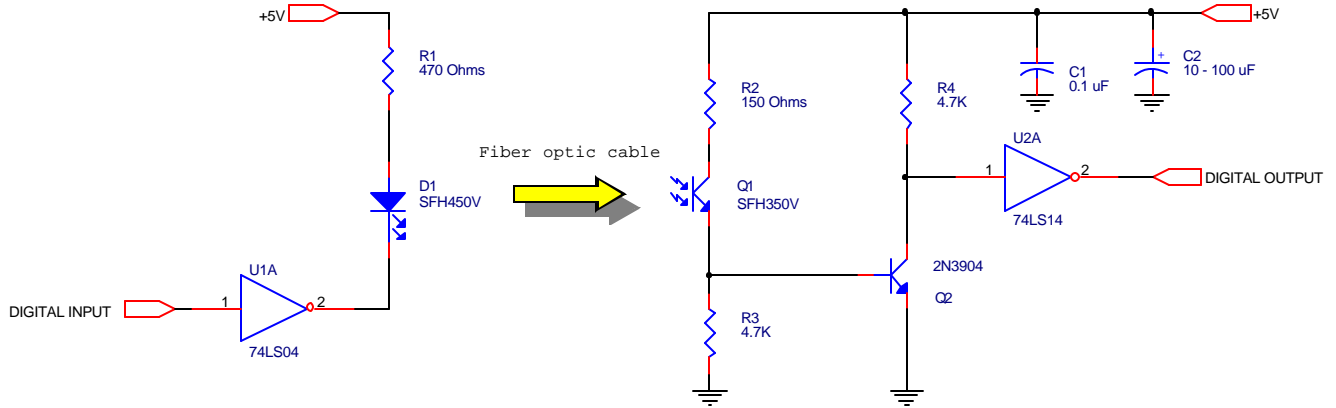

Figure 2: Digital Fiber Optic System
Figure 2 is the digital version of the system. The digital signal enters pin 1 of U1a where it is inverted. Therefore, a mark or logic "1" causes U1a pin 2 to go low and turn on D1 through R1. A space or logic "0" conversely causes D1 to turn off. Thus, a digital signal causes the light beam to turn on and off in step with the 1 and 0 pattern being sent.
8. Build the digital fiber optic data link of Figure 2.
3. How does the circuit of Figure 2 represent 1s and 0s on the optical fiber?